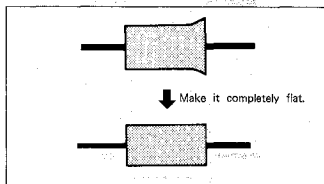

Fig. 7-79.
- 6) Turn No.4 guide so that waveform is flat. (See Fig. 7-79.)